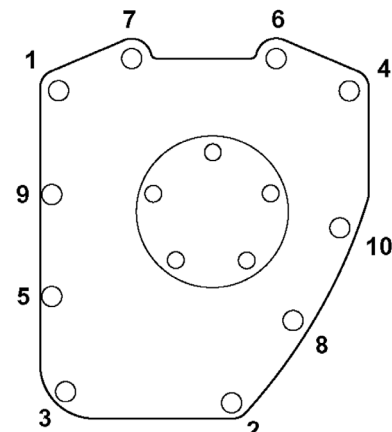

Figure 2
- V. Use a new cam cover gasket and install the cam cover. Tighten the cover bolts 90-120 in-lbs torque in sequence shown. **See Figure 2** below.